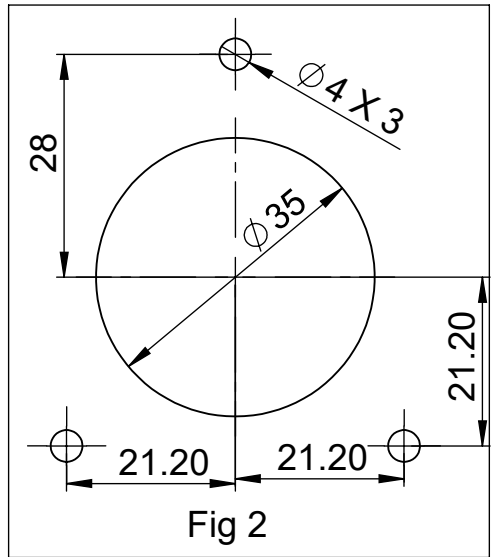

Fig 2
3. Mark holes as per template (Fig 2).